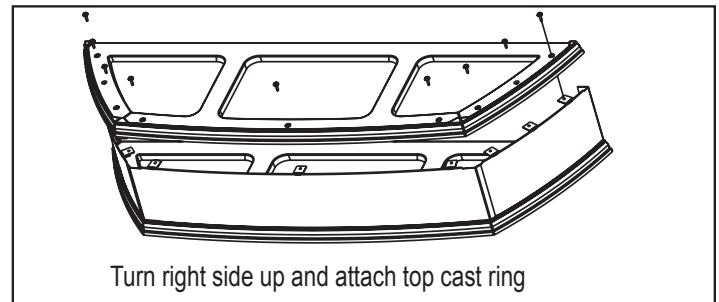

Figure 22.4
5. Now turn the cast ring right side up and attach the top cast ring. **Figure 22.4.**